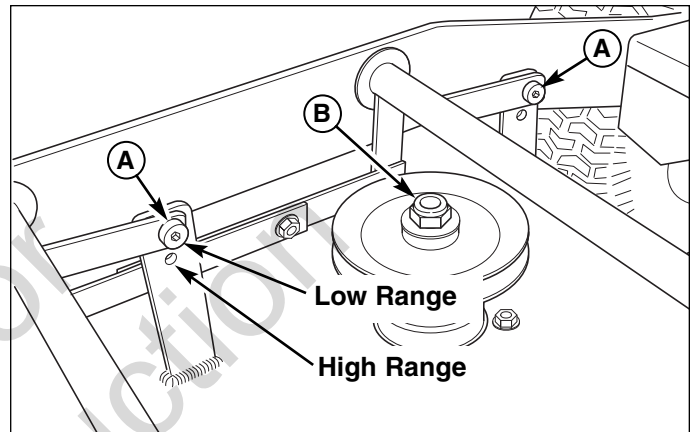

Figure 12. Pulley & Pivot Position
2. Remove the spindle nut (B, Figure 12) fastening the pulley to the spindle. Remove the pulley and key. Move the pulley spacers into the proper position in relation to the cutting range. Reinstall the pulley and key. Reinstall the nut and torque to 85-90 ft. lbs. (115-122 Nm).
3. Remove the pivot bolts and nuts (A, Figure 12) and reinstall the proper position in relation to the cutting range. Reinstall the bolts and nuts a tighten securely.